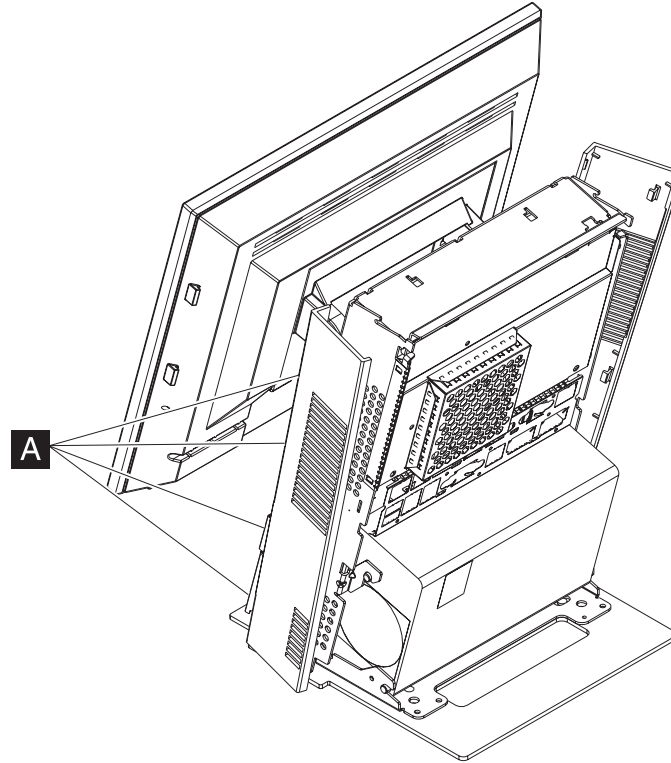

Figure 59. Removing side covers
5. From the front of the system, use a flat-bladed screwdriver to pry open four latches on the front of each side cover **A**, as shown in Figure 59 on page 73.